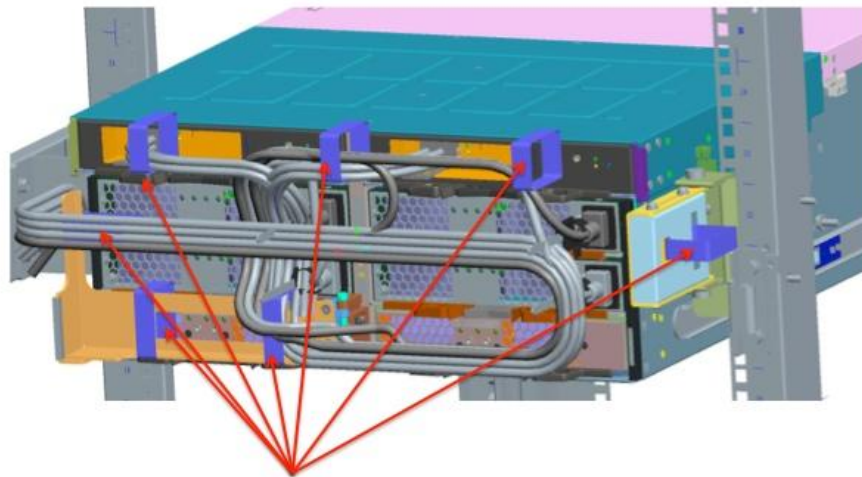

Figure 21. **Attaching Velcro Strips (Shown in Blue) to CMA**
- Add the Velcro strips after cable routing to hold the cables together (Figure 21).